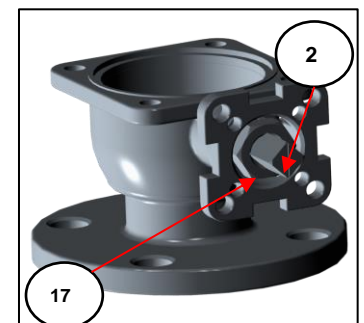

Figure 4-27
- 4.4.10 Install packing nut (item 17) and torque the packing nut according to Table 2-2 in Section 2.2. (Figure 4-27)